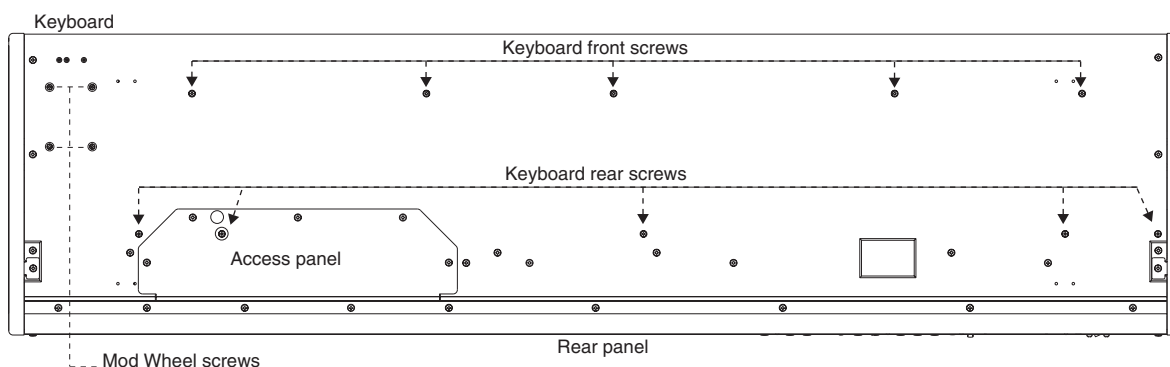

Figure 4-16 PC2X 88-note keyboard bottom
1. The keyboard is secured to the bottom enclosure using ten screws. Refer to Figure 4-16 for the position of the screws. Arrows identify the locations of the ten screws.